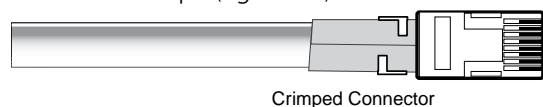

Figure 24. Crimped RJ-45 Connector
5. Feed each individual wire into the appropriate slot of the RJ-45 connector and crimp the cable in the normal manner, folding the tangs at the end of the connector over the shielded tape (figure 24).